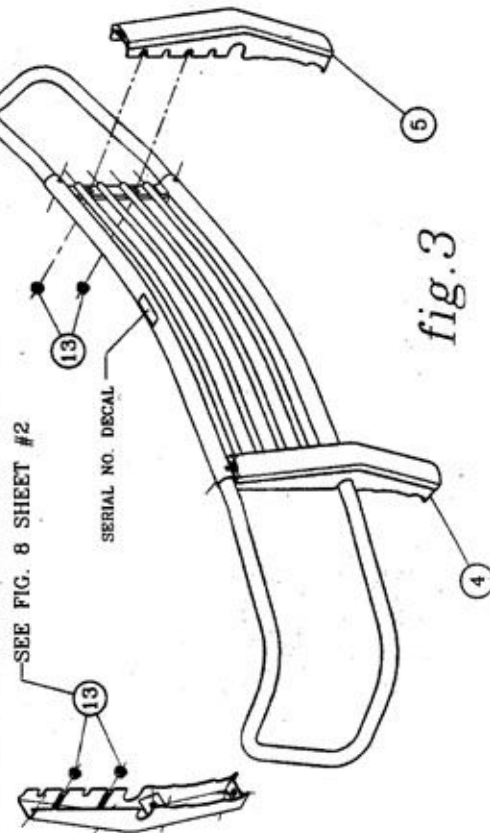

fig.3
4. INSTALL THE RIGHT (4) & LEFT (5) UPRIGHTS ON THE RING ASSEMBLY (1) AS SHOWN IN FIG. 3, MAKING SURE THEY ARE CENTERED AND PARALLEL WITH THE BARS IN THE RING. FASTEN, USING THE 1/2" SERRATED FLANGE NUTS (13) ON EACH OF THE FOUR (4) STUDS. TIGHTEN ALL FOUR (4) NUTS AT THIS TIME
4. INSTALL THE RIGHT (4) & LEFT (5) UPRIGHTS ON THE RING ASSEMBLY (1) AS SHOWN IN FIG. 3, MAKING SURE THEY ARE CENTERED AND PARALLEL WITH THE BARS IN THE RING. FASTEN, USING THE 1/2" SERRATED FLANGE NUTS (13) ON EACH OF THE FOUR (4) STUDS, TIGHTEN ALL FOUR (4) NUTS AT THIS TIME. SEE NOTES 1 & 2 IN STEP #4 SHEET 1 FOR MORE DETAIL ON ADJUSTMENT.